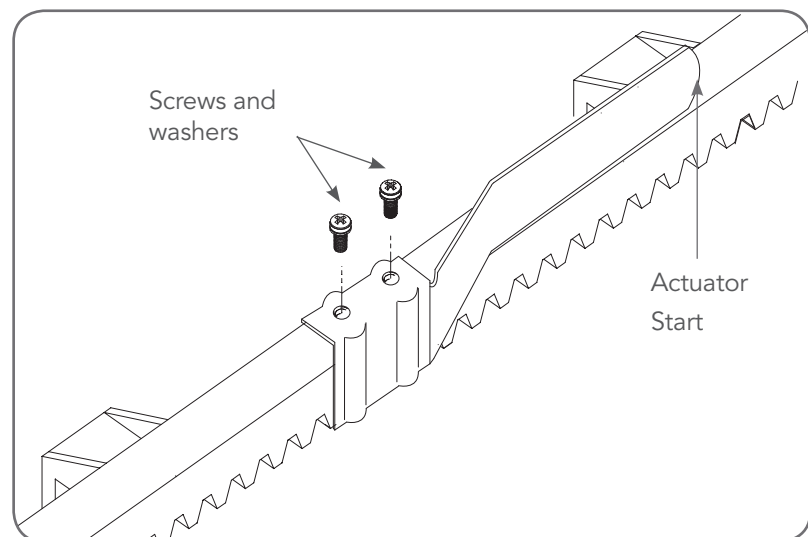

Fig 5.3
- Place the start of the limit actuator (6) at marked position and move it 5 to 10mm towards the centre of the gate. Screw the limit actuator to the rack (**Fig. 5.3**). Repeat for the close position.